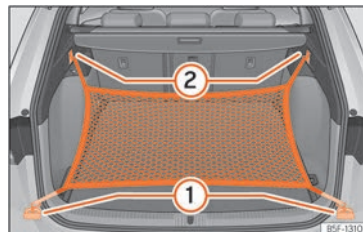

Fig. 136 In the luggage compartment: rings ① and hooks ② for attaching the net bag.
- Secure the short net hooks to the fastening rings »» Fig. 136 ① »» ⚠. The bag zip should be facing upwards.
- Secure the straps in the bag hooks ②.